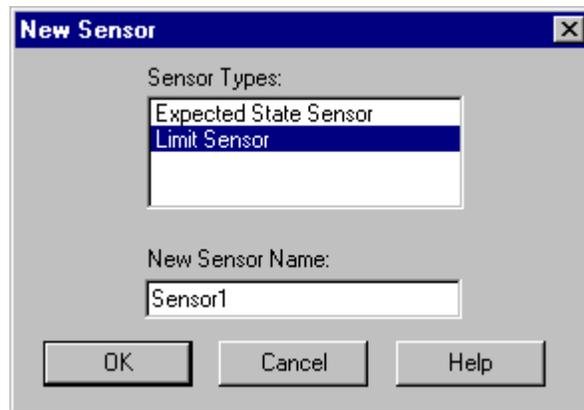

Figure 18 New Sensor
4. Push the **New** button in the **Sensors** dialog. You will see a dialog similar to the one shown in Figure 18. The dialog shown in Figure 18 has already been filled in with the values you should enter. Select **Limit Sensor** in the **Sensor Types** list and then type in the name **Sensor1** for the sensor name.